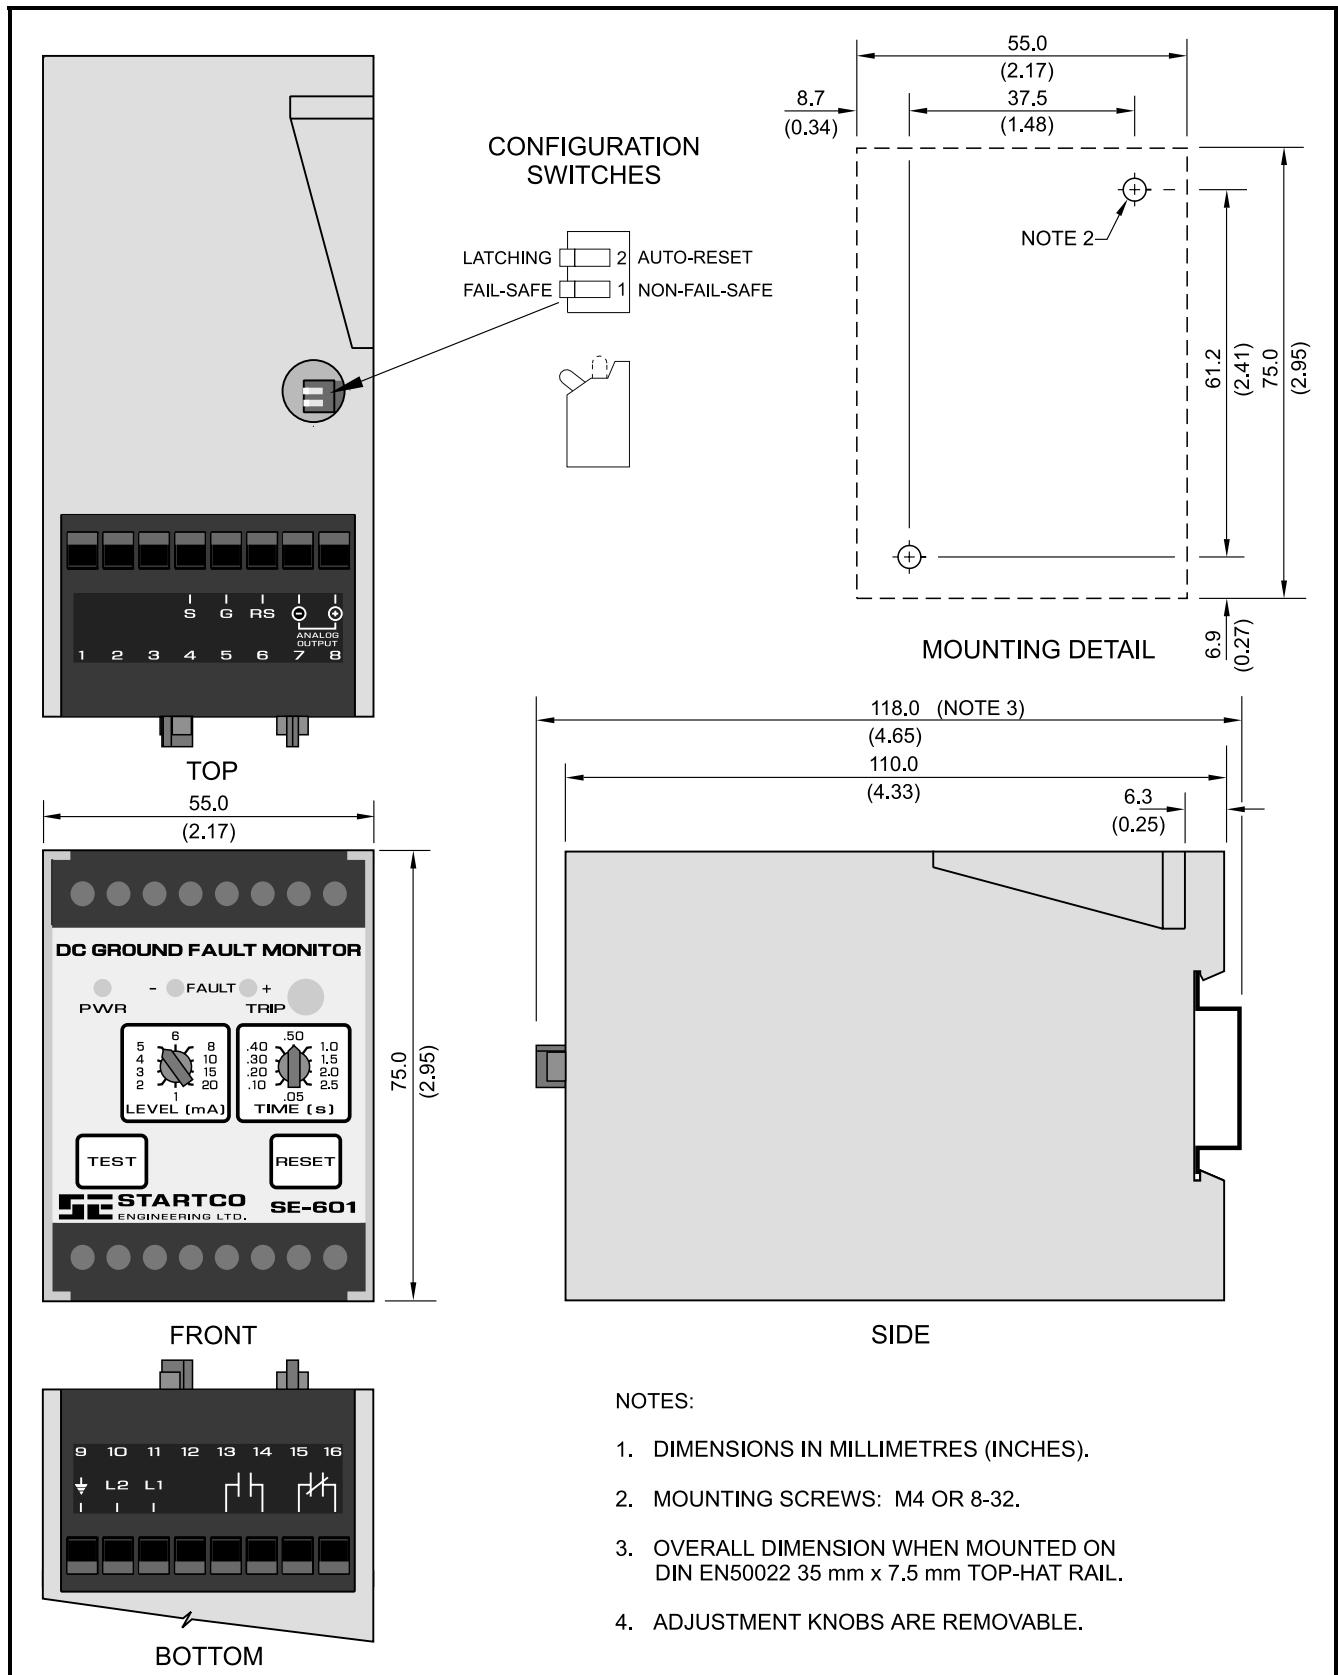

FIGURE 1. SE-601 Outline and Mounting Details.
2.1 CONFIGURATION-SWITCH SETTINGS (See Fig. 1)